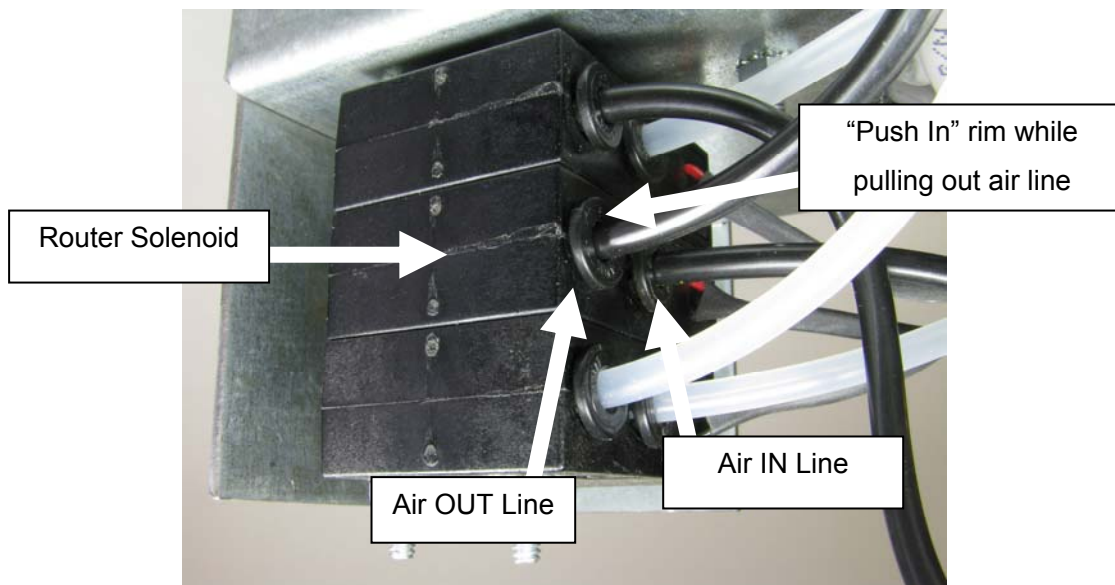

Fig 12
1. Disconnect power and air from the machine. Remove both air lines from the Router Solenoid. **See Fig 12.**